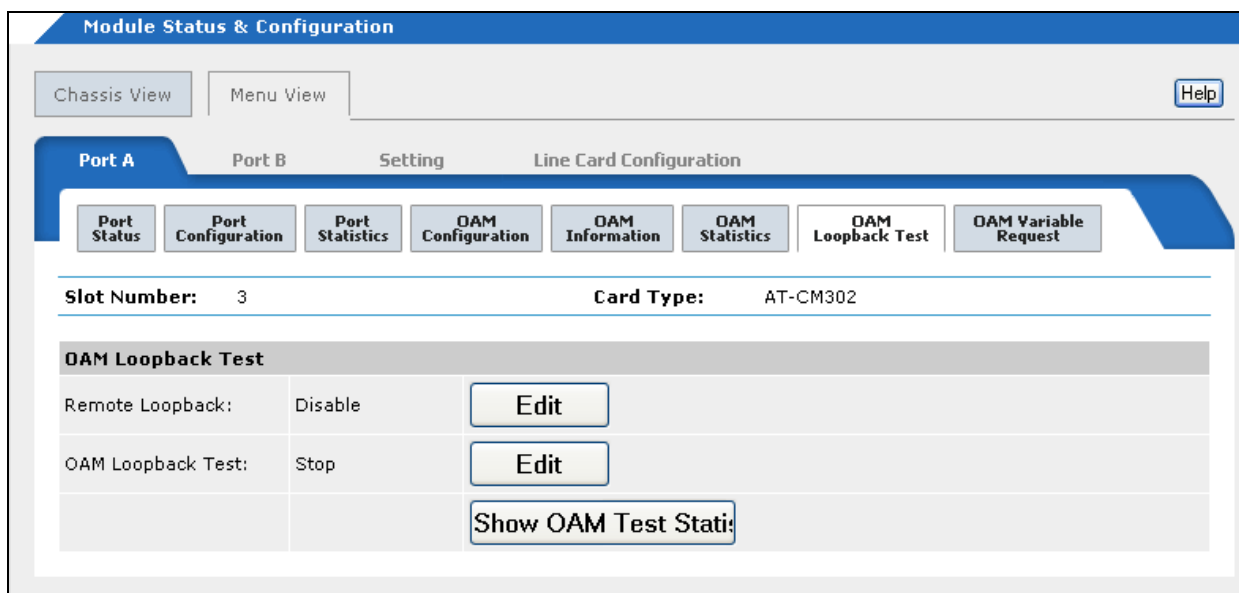

Figure 110. OAM Loopback Test Tab
4. Click the **OAM Loopback Test** tab to display the OAM Loopback Test tab in Figure 110.